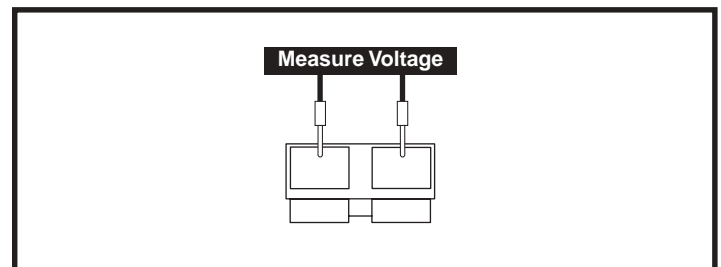

Figure 5. Connector 7a
7. Measure voltage across pin 1 and pin 2 on connector 7a. **See figure 5.**